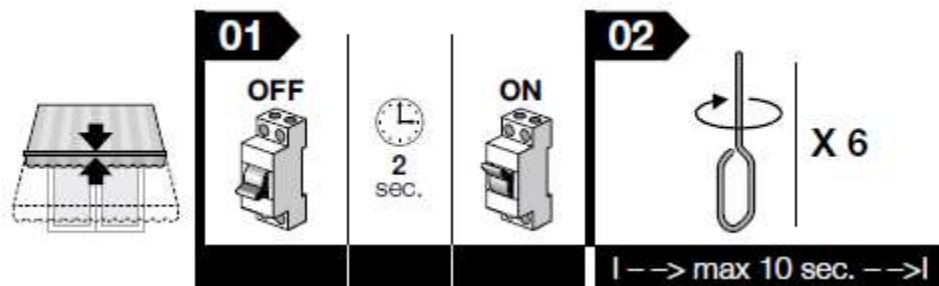

Figure 36
01. Disconnect the AC supply to the motor; wait at least 2 seconds, **see figure 36.**
02. Then reconnect the AC supply to the motor, **install the hand crank and turn it at least 6 complete turns and make certain to do this within 10 seconds**, see figure 36.